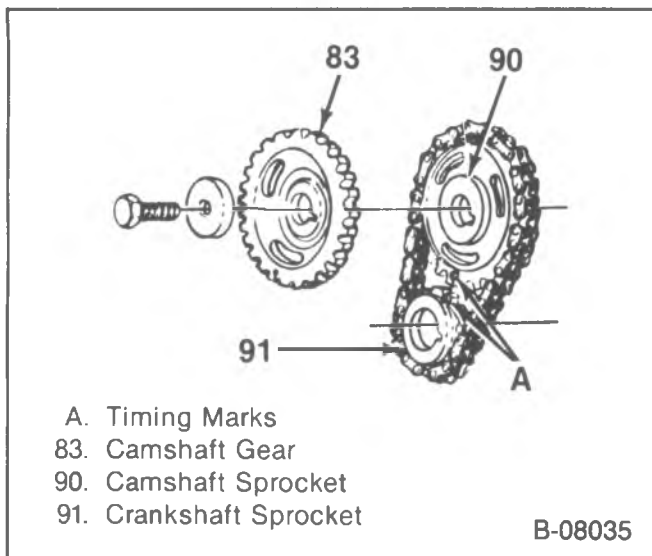

Figure 16—Timing Chain and Sprockets
**Remove or Disconnect (Figure 16)**
- Align the timing marks (figure 16).
Install or Connect (Figures 16, 17, 34 and 35).